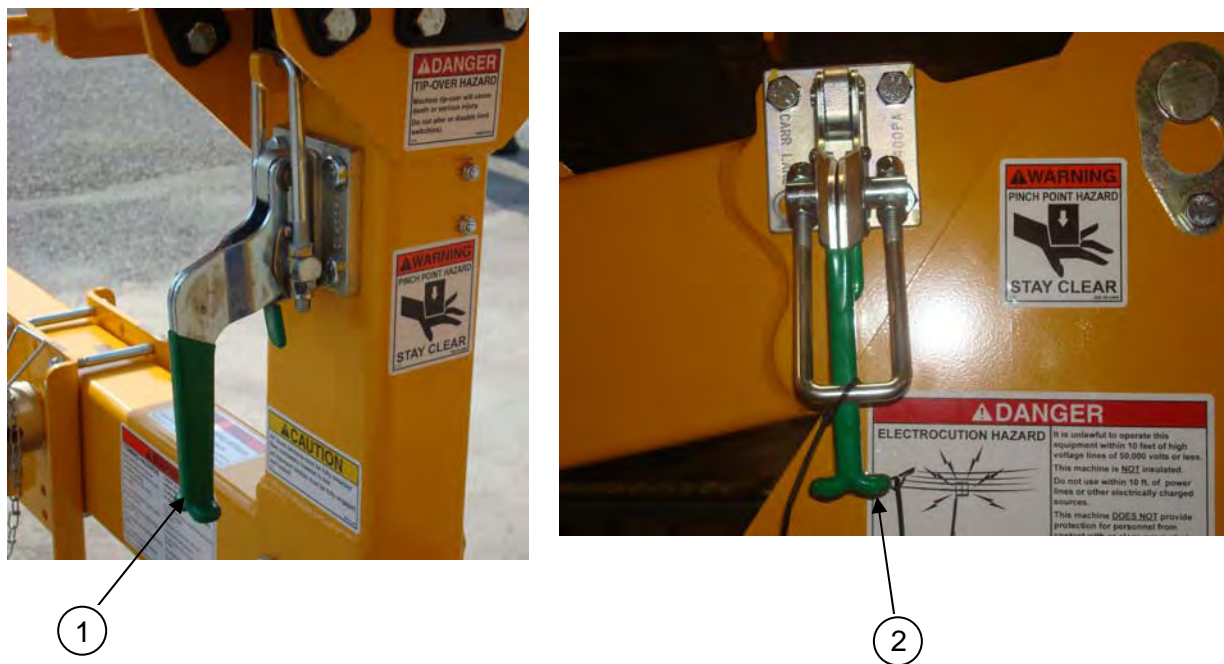

Figure 3-3. Boom Travel Latches
- Release both boom travel latches, (1) on the Boom Rest, and (2) on the Primary Boom, by raising the latch handle and swinging the clasp down. Refer to Figure 3-3.
- Fully lower the boom onto the boom rest to enter the platform using a three (3) point contact (both hands and one foot).
- Raise the safety bar and enter the work platform by using a three (3) point contact (both hands and one foot). Put on a safety harness and attach the lanyard to the **ANCHORAGE** (attachment point) on the side of the platform support beam.
- Should the platform become tilted out of the normal vertical axis, press (push) and hold the desired **SPEED (6)** button and one of the **PLATFORM TILT (16)** or **(17)** buttons at the same time to level the platform back into the normal vertical axis.
- Use the platform (upper) control panel to operate the boom lift functions. Raise, lower, extend and rotate the boom by pressing (pushing) and holding the desired **SPEED (6)** and desired function button at the same time. Become familiar with the location and function of all controls. Learn to smoothly **START** and **STOP** all boom functions.
- Unfasten the safety harness and exit the platform by using a three (3) point contact (both hands and one foot).
**NOTE:** Refer back to earlier in this section to Figure 3-3 for a visual of these latches.
- Inspect the area beneath the aerial work platform and trailer for obstructions before retracting outriggers. Press (push) and hold the outrigger **RETRACT (22)** button and the **AUTO LEVEL (23)** button until all outriggers are fully retracted to their “stowed” (upright) positions.
- At the ground (lower) control panel turn the **KEY SWITCH (1)** to the vertical (power “OFF”) position, and remove the key.